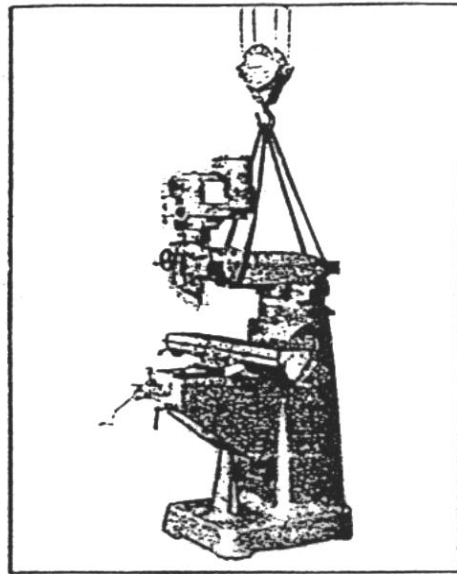
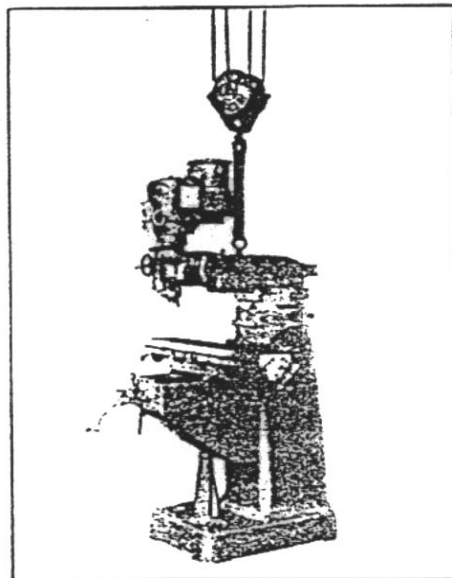

FIG7-3
FIG7-4
- (3) After packing, transport may be made by hoisting with a reinforced cable (fig. 7-3) and the eye bolt (fig. 7-4).